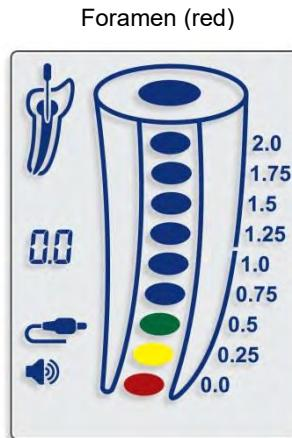

Fig. 10
- 7.4.12. Reaching the apical foramen (0.0) is indicated by a red color segment inside the root canal image (Fig. 10) and a constant audio tone.